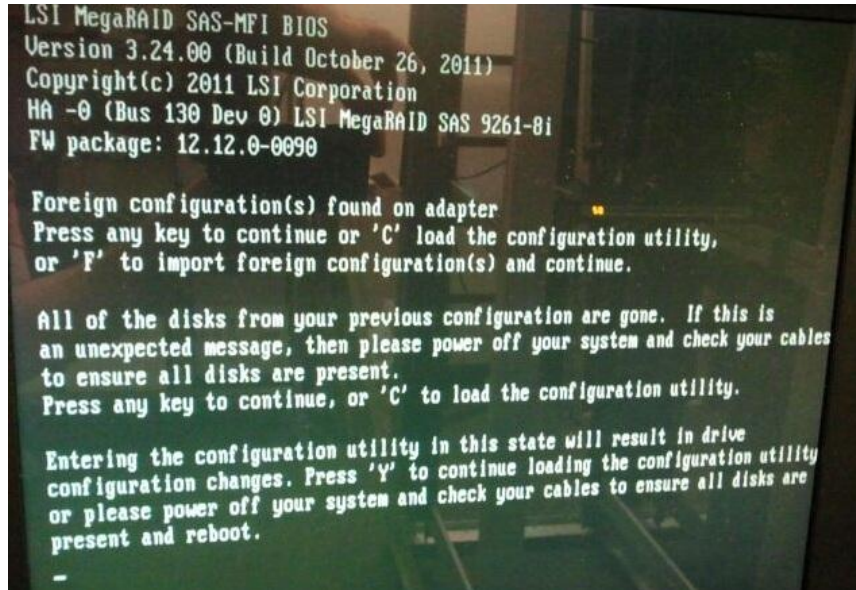

Figure 12: Messages displayed on the screen after typing 'F' and 'C'
3. After typing 'F', more messages will be shown. Please refer to Figure 12 below.
11. If the prompt to import the “Foreign configuration” was not seen, verify the configuration by loading the WebBIOS when prompted by entering “<CNTL>-H”. Follow the same procedure as mentioned after Figure 12 (Figure 12 through 17).